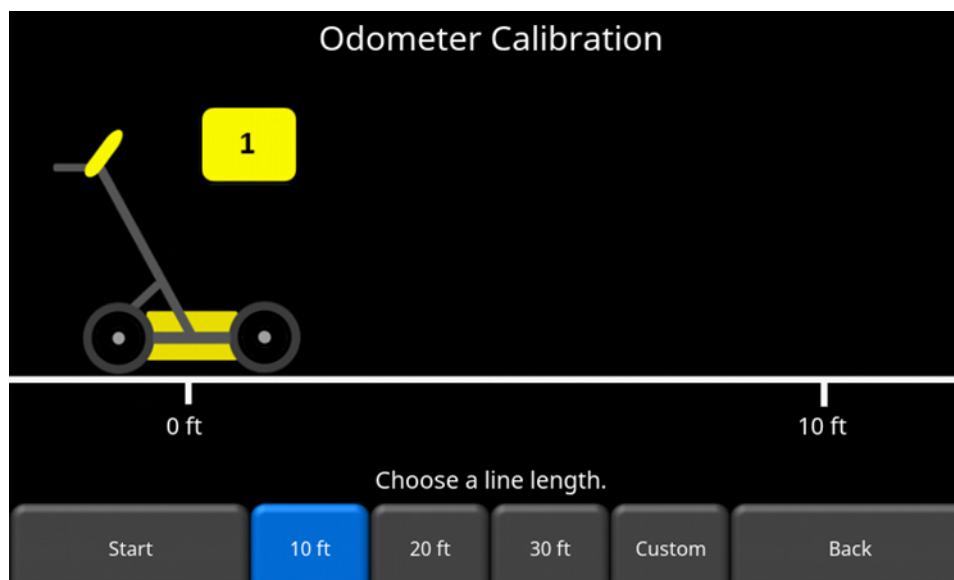

Figure 4-19: Odometer Calibration – select a distance and then press Start
- **Odometer Calibration** - This option actually calibrates the odometer (Figure 4-19). Choose a set distance from the screen, or select Custom. Then press **Start** and move the system that exact distance, using a measuring tape or other known distance indicator. Press **Finish** when you have travelled that distance